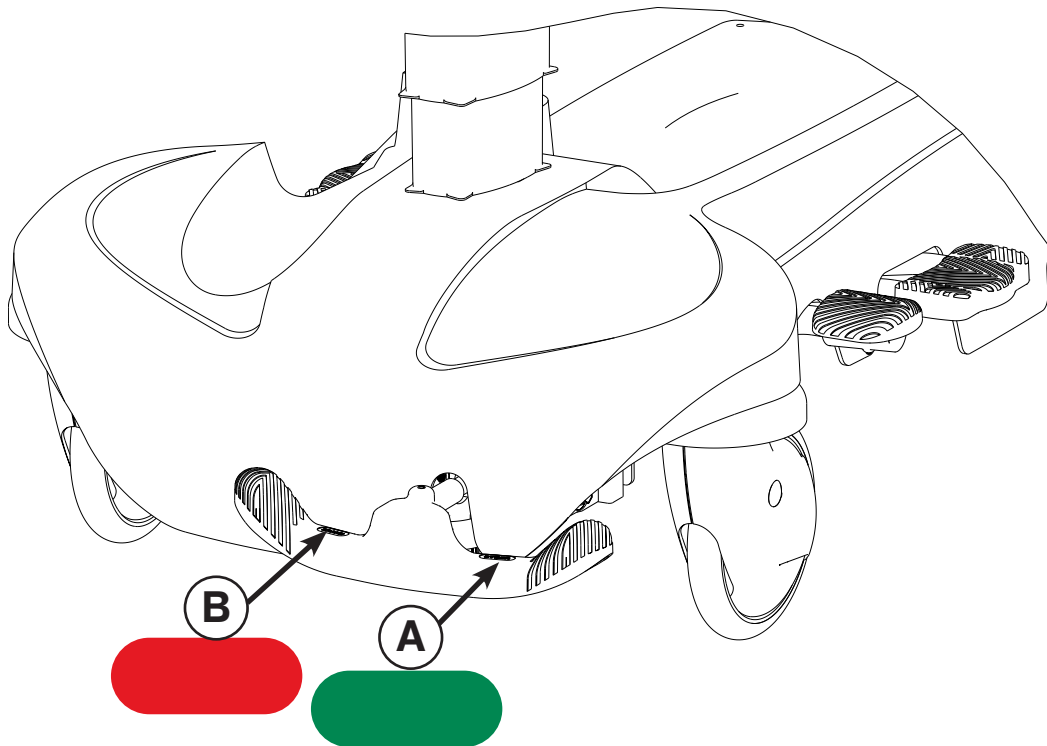

Figure 12: Fifth Wheel (Head End View)
To operate the fifth wheel, push the steer (green) side (A) of any brake/steer pedal to the lowest position as shown in Figure 12.
To disengage the fifth wheel, push the brake (red) side (B) of any brake/steer pedal to the neutral position as shown in Figure 12.